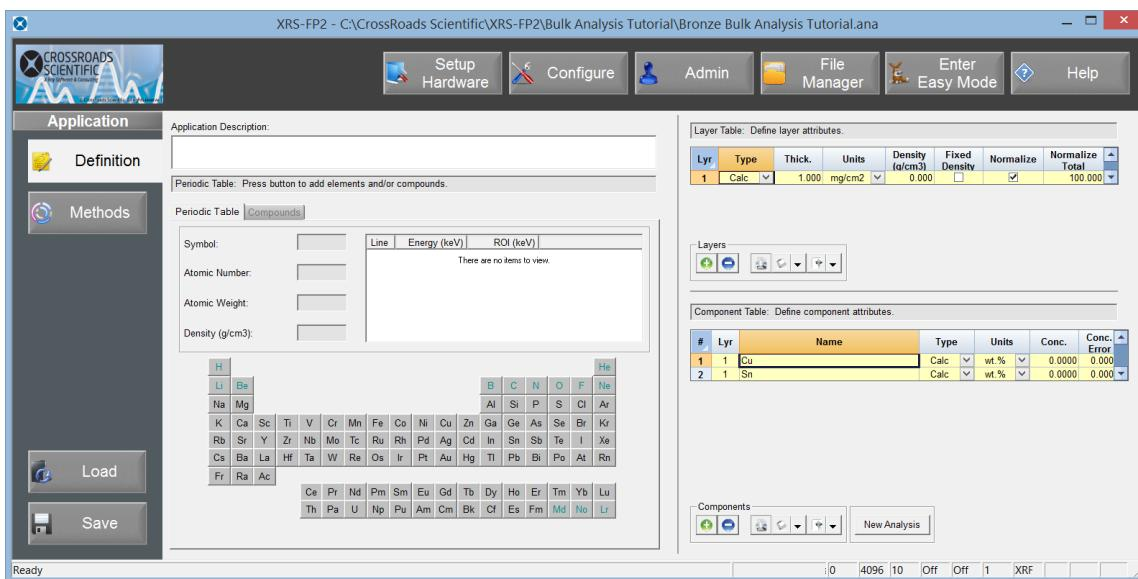

Figure 5. XRS-FP2 Application Workflow - Definition. The application definition is input here.
- The definition workflow is where the sample elements and compounds can be entered either by clicking on the periodic table or by entering them in the Component Table (in the right-hand panel). In this tutorial, we are working with alloying metals, elemental metals. Select or enter **Cu** as the first component. Having entered a component in the table, use the down arrow key of your computer keyboard or the “plus” and “minus” buttons to enter additional components. Now enter **Sn** for the second component. See Figure 5 below. Notice that the “Type” is automatically set to “Calc” so the SW will calculate the concentration of each component.
In addition to defining the sample components, the layer attributes of a sample are also defined here. Accurate XRF analysis requires definition of the thickness of the sample material. In the case of this tutorial, the bronze is infinitely thick, which means that it has greater thickness than the escape depth of the highest energy line, the Sn K α . This is defined as “Type” “Bulk” in the “Layer Table”, which is the default type setting. The default thickness for bulk analysis is zero (0). XRS-FP2 facilitates the analysis of less than infinitely thick samples by calculating the thickness; the **Type** field is set using the pull down to and selecting **Calculate**. Note that thickness of less than infinitely thick samples can also be **Fixed** (thickness and units must then be defined in the fields provided), or calculated by absorption (Absn) from the absorption of an emission from material below the layer being analyzed. Density and Unit fields only apply to less than infinitely thick samples. The “Normalize” field of the thickness table refers to component concentrations. For standardless analysis the results **MUST** be normalized (see Fig. 5 above). Normalizing to 100% is not required for all bulk analysis, but is often employed.